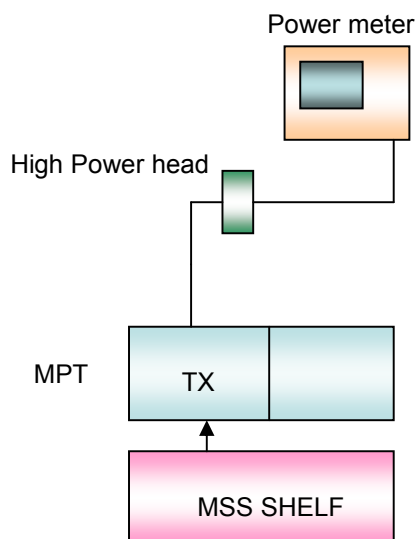

Figure 5 Power Measurement Setup
- Connect as shown in figure 5.